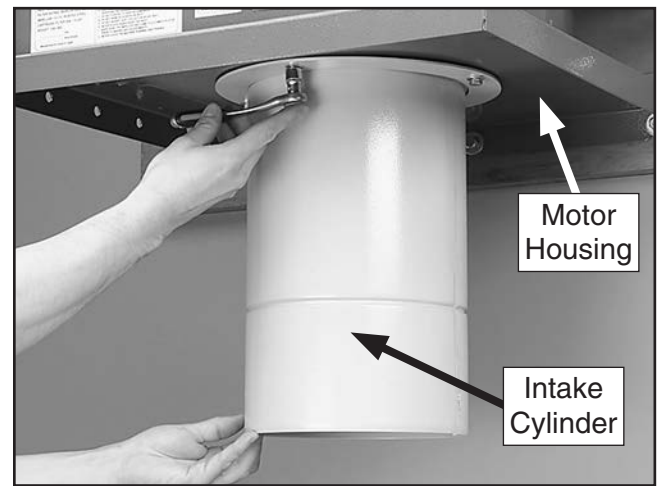

Figure 11. Attaching intake cylinder to the bottom of motor housing.
3. Attach the intake cylinder to the bottom of the housing, as shown in **Figure 11**, using (4) $\frac{5}{16}$ "-18 x $\frac{3}{4}$ " hex bolts and (4) $\frac{5}{16}$ " flat washers.